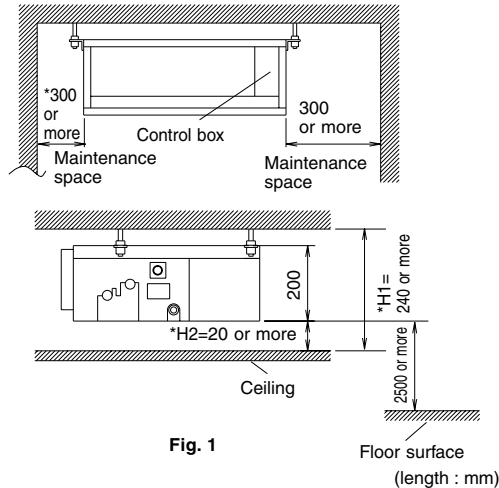

Fig. 1
- (1) **Select an installation site where the following conditions are fulfilled and that meets with your customer's approval.**
- Where sufficient clearance for maintenance and service can be ensured. (Refer to Fig. 1)